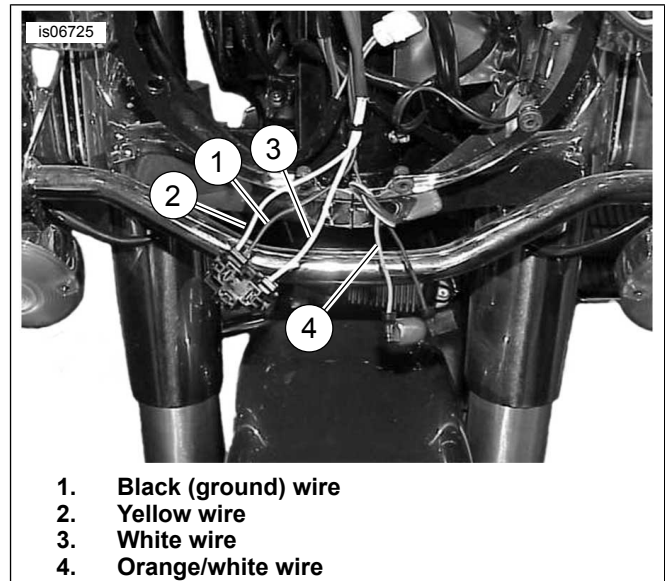

Figure 14. Wires for Transmitter Connections (FLHR)
2. **FLHR Touring Models:** See Figure 14. Cut the yellow (2), black (1) and white (3) headlamp wires **inside the nacelle**, staggering the lengths a bit to avoid all three splices being together. **FLHT and FLHX Touring and Trike Models:** See Figure 9. Cut the yellow (6), black (4) and white (5) headlamp wires **inside the fairing**, staggering the lengths a bit to avoid all three splices being together. **FLTR Touring Models:** See Figure 10. Cut the yellow (6), black (4) and white (5) headlamp wires **inside the fairing**, staggering the lengths a bit to avoid all three splices being together. **ALL Touring/Trike Models:** Slide the woven wire conduit from the kit (see Figure 27, Item 9) over all three headlamp wires.